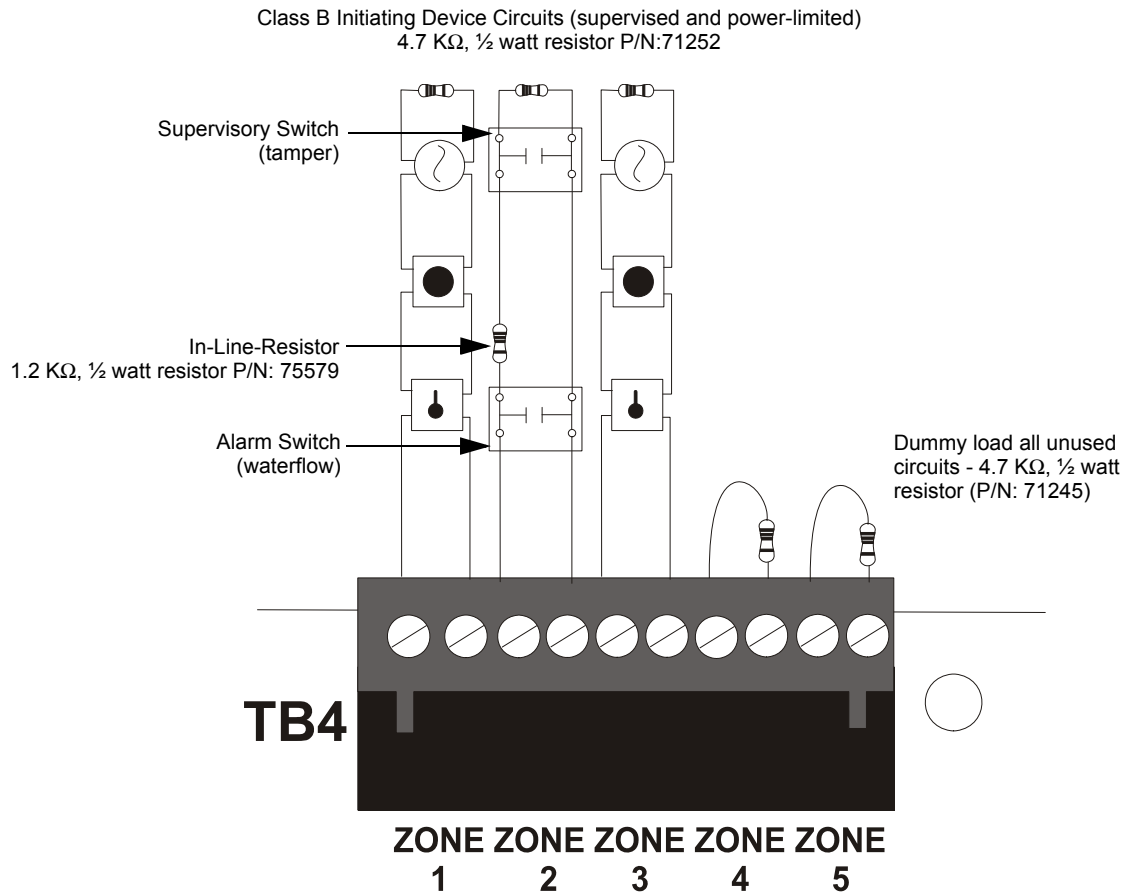

Figure 2.6 Style B Combination Circuit on Zone 2
- ✓ The Waterflow Alarm Switch must connect to the FACP Initiating Device Circuit before the In-Line Resistor as shown in Figure 2.6
- ✓ The Supervisory Switch must connect to the FACP Initiating Device Circuit after the In-Line Resistor as shown in Figure 2.6